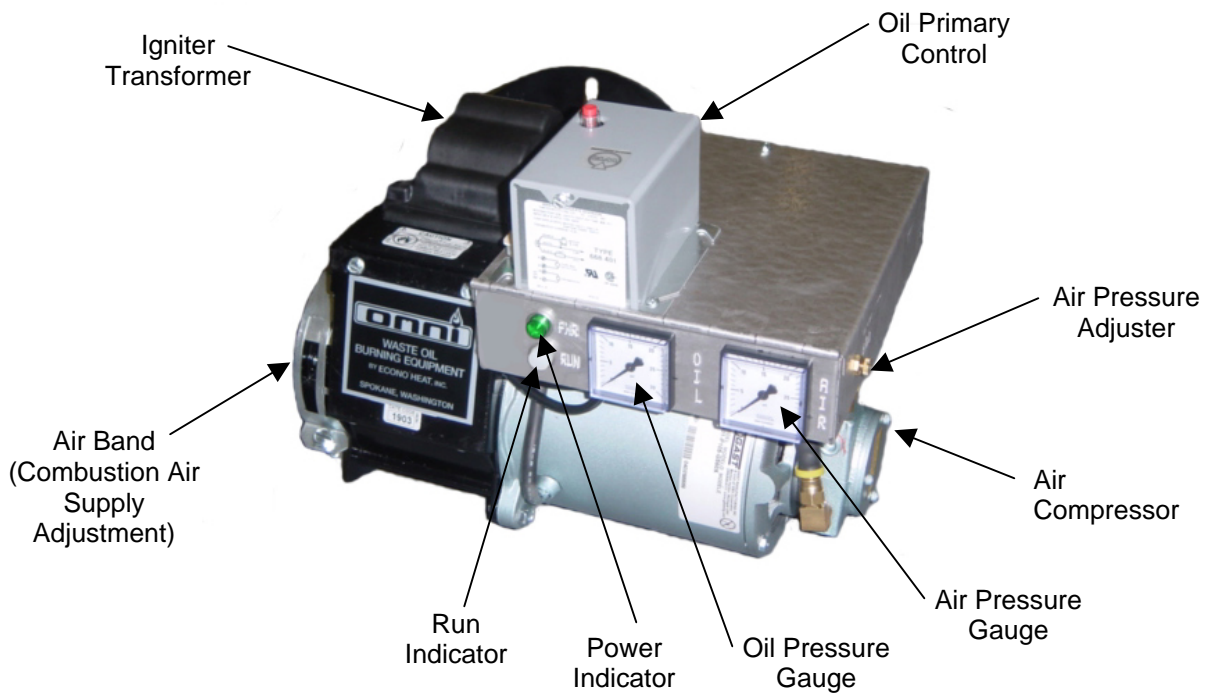

Figure 26 – Oil Burner (Closed)
2. Making sure the thermostat is turned off, apply power to the Chiller unit. Switch burner main power switch to ON position. After allowing the oil pre-heater time to establish temperature setpoint, approximately 5 minutes. Jump the "T" terminals on the Oil Primary (Figure 26). Once the burner is running, temporarily jump the "F" terminals on the Oil Primary. This will allow the burner to run during the pump priming process.